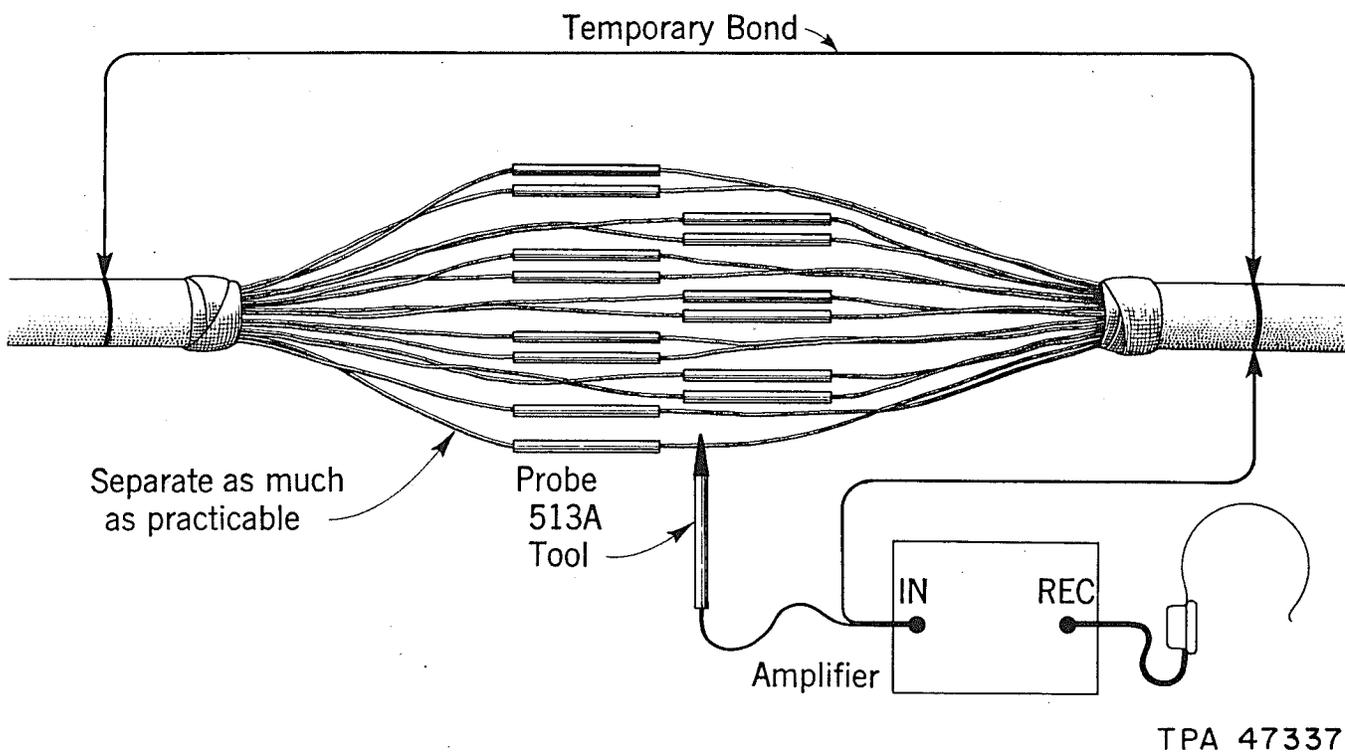

Fig. 1—Testing For Tone
4.03 A typical arrangement at a splice is shown in Fig. 1.